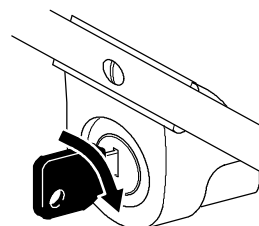

Figure 12
- **Electric Starting**—Insert the key into the switch. Turn the key to the right and release it when the engine starts (Fig. 12).